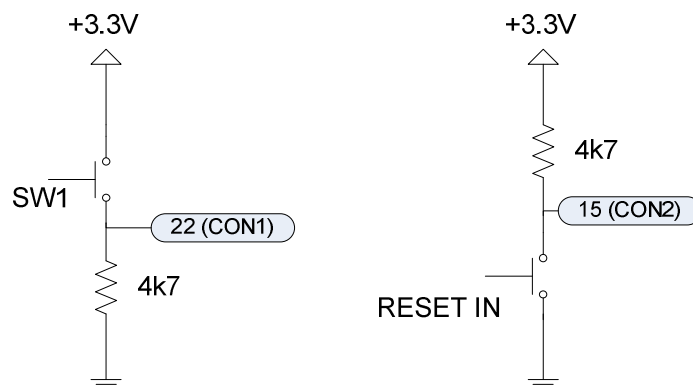

Figure 7. External circuits for factory default values recovery
1. Using an external push button. It must be of the “normally open” type. This means that the reset activation will be carried out by joining the corresponding line with ground (see scheme connection in Figure 7).
In order to recover the network and system access factory default settings, two external push buttons connected to the following board inputs are needed (the connections are made as per the circuit shown in Figure 7):
1. Press the reset button (RESET IN in Figure 7).
2. Afterwards and while you keep the previous button pressed, press the SW1 one (see Figure 7). Both buttons must be pressed for around 7 seconds.